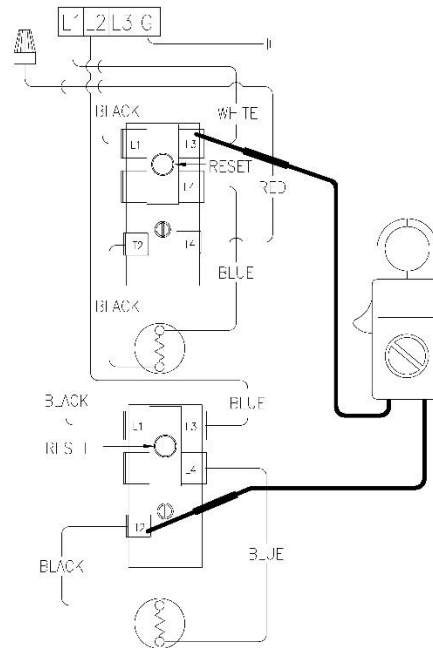

Figure 17
6. Check across terminal L3 of upper thermostat and T2 of lower thermostat (see Figure 17).